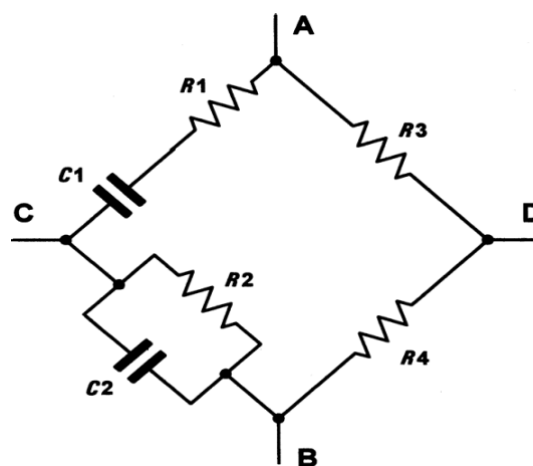

Figure 1.52 A Wien bridge network
- An alternative approach to providing the phase shift required is the use of a Wien bridge network (Fig. 1.52).